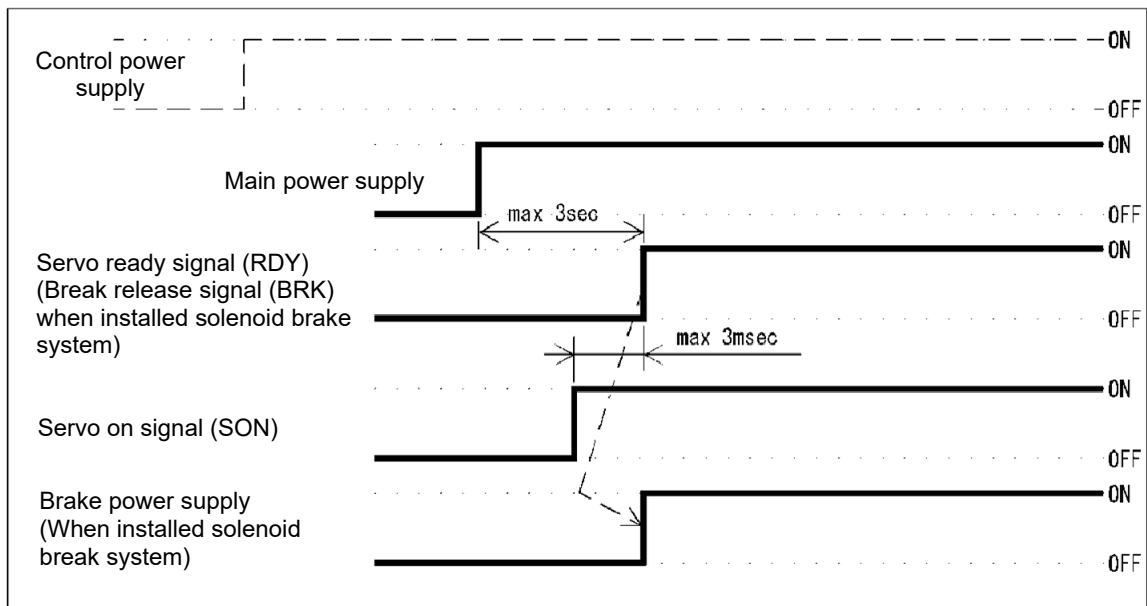

Figure 3-4 Timing chart at power-on
- (7) On the motor-device wiring, do not connect a magnet switch or a molded case circuit breaker.
- (8) When using a motor with a brake, be sure to release the brake before operating the motor. If the motor is operated without releasing the brake, the motor may be burn out. Thus, pay attention to the timing, referring to Figure 3-4.